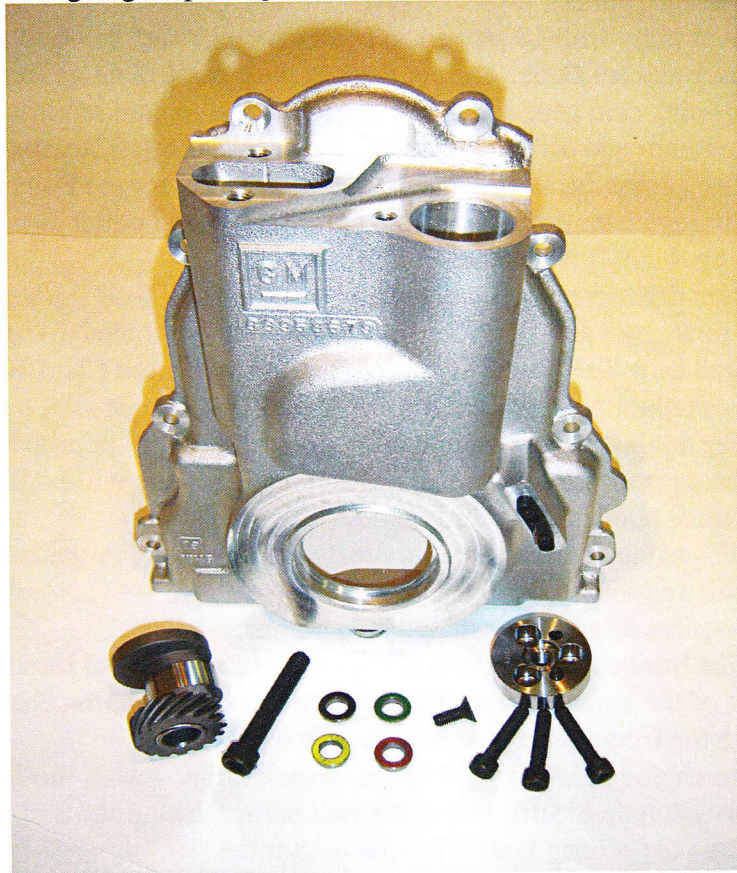

Figure 1. 88958679 Front Cover Kit. (shown without front seal)
- 1- p/n 88958678 Machined Front Cover. (See Figure 1)